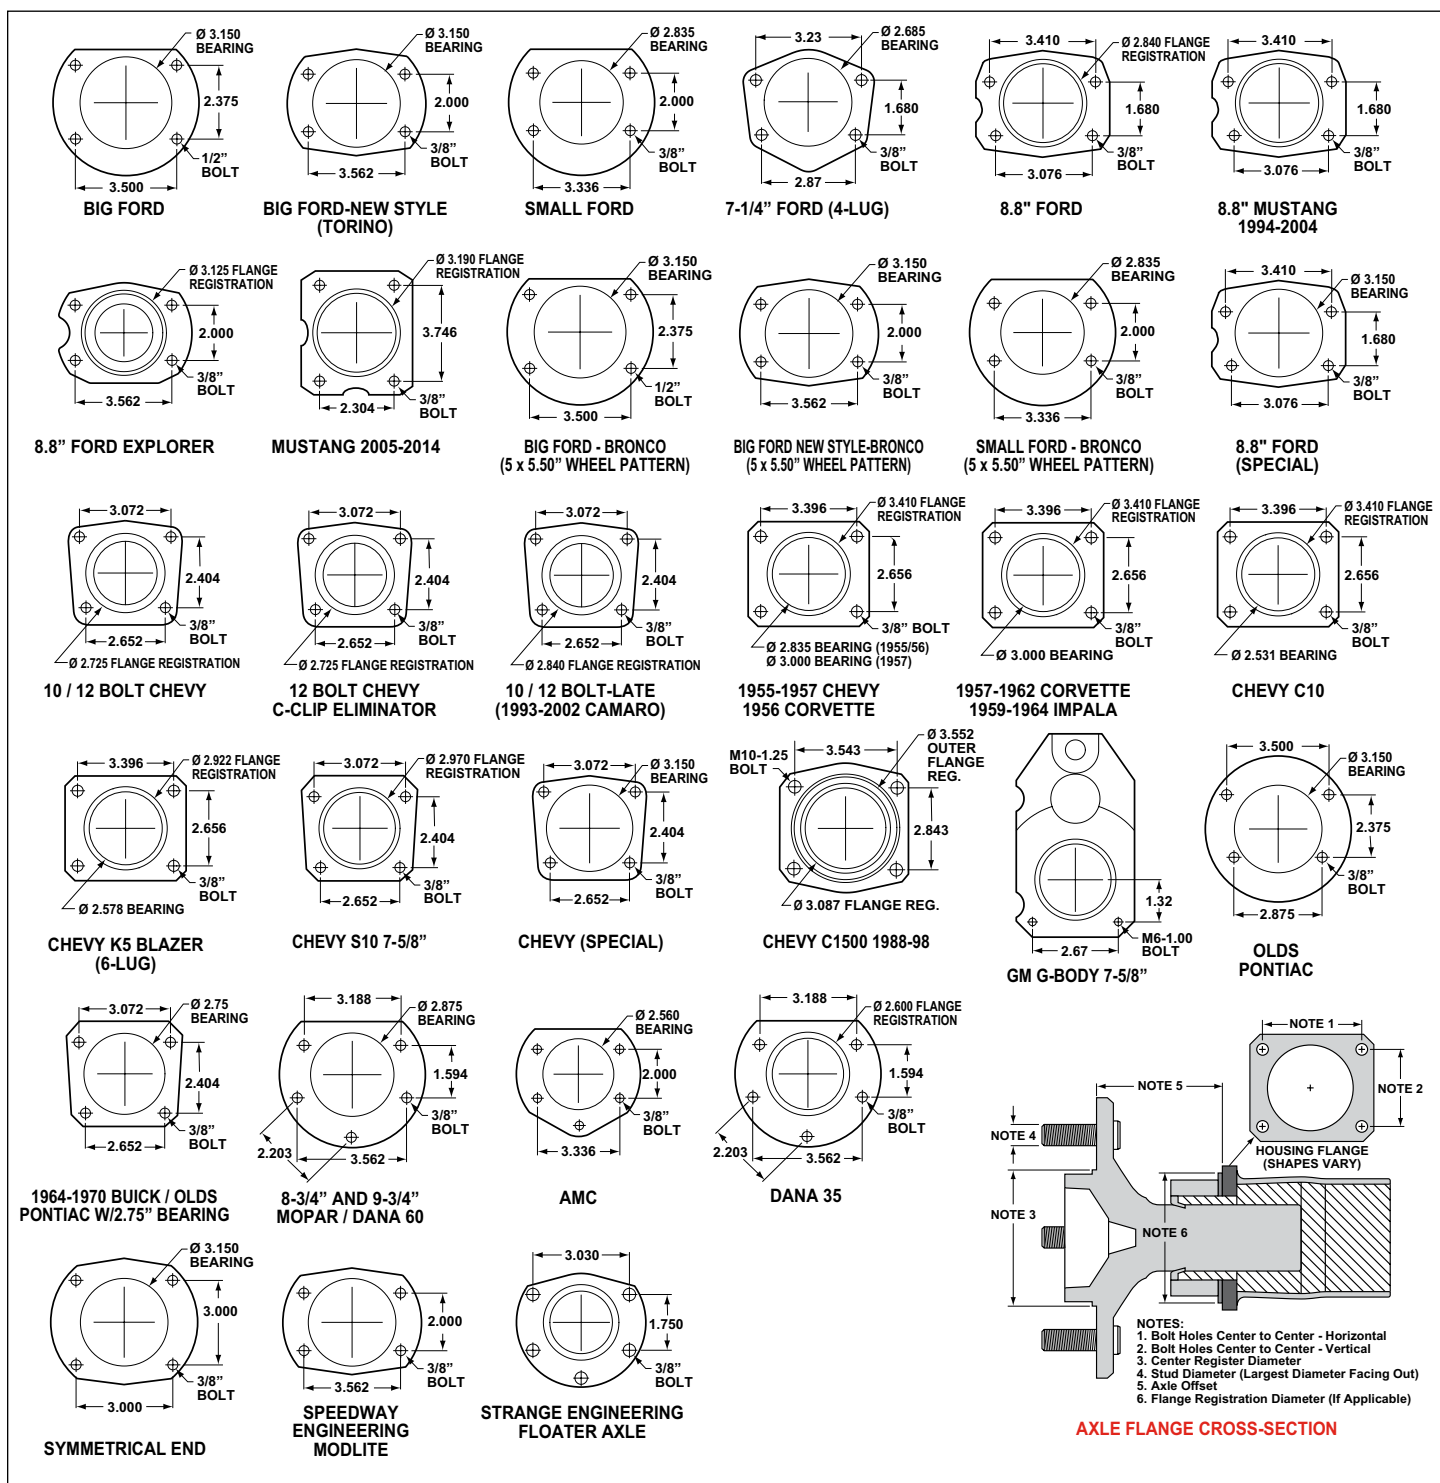

Figure 4. Rear Housing Flange Chart and Axle Flange / Offset Cross-Section
- Axle housing flange registration outside diameter 2.922", Figure 4.
- Dimension from wheel side of axle flange to wheel side of axle housing flange (see Figure 4, Note 5, lower right hand corner). This dimension is critical to ensure proper alignment of the rotor to the caliper, and should match offset given in the kit description.